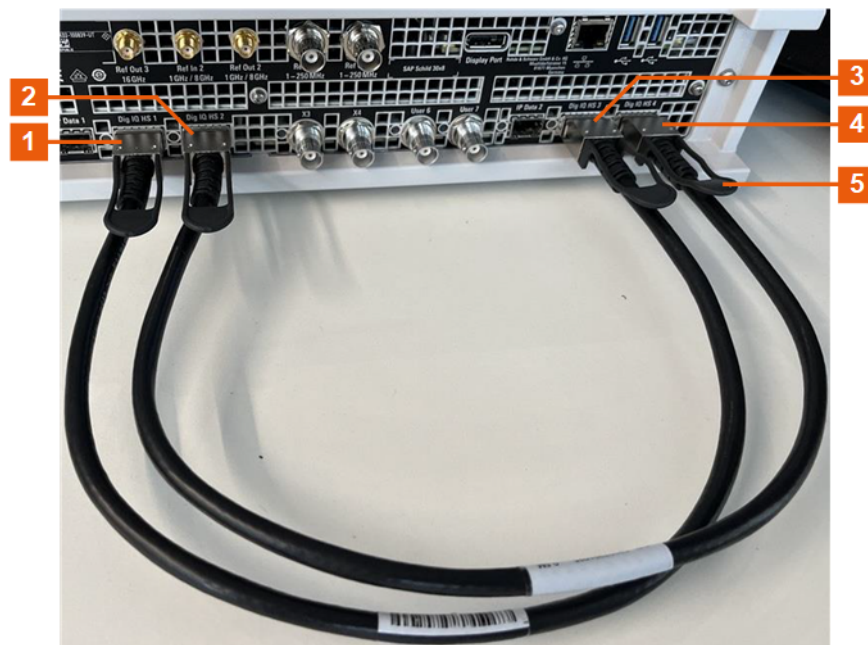

Figure 3-1: QSFP+ connections for I/Q data crosslink
See also (5) in Figure 3-1.
See also (1) and (3) in Figure 3-1.
See also (2) and (4) in Figure 3-1.